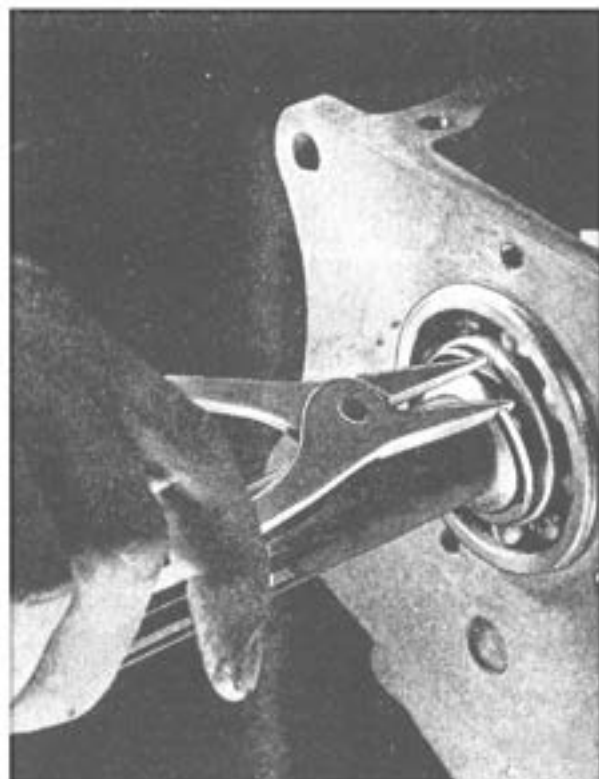

FIG. 3—REMOVING SNAP RING
1. Remove cap screws and lock washers holding rear cover. No. 37, Fig. 3 in Transfer Case Section.